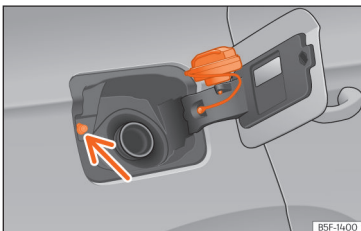

Fig. 202 Fuel tank flap with tank cap attached.
- Place it in the space on the hinge of the open flap >>> **Fig. 202**.
Avoid touching the fuel tank flap lock button >>> **Fig. 202** (arrow). The system will interpret that you have finished and cannot continue refuelling. Press the  button on the driver's door again to continue.